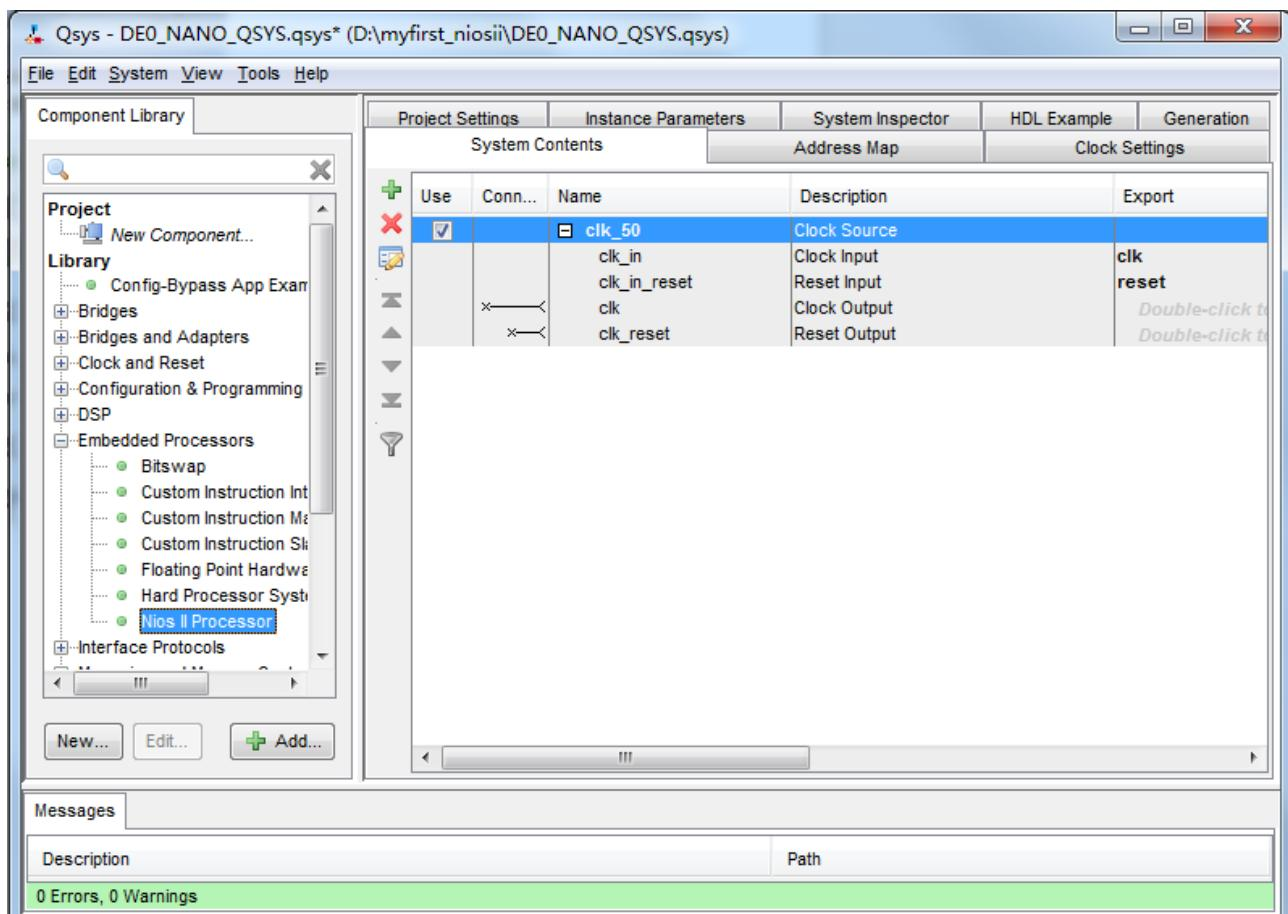
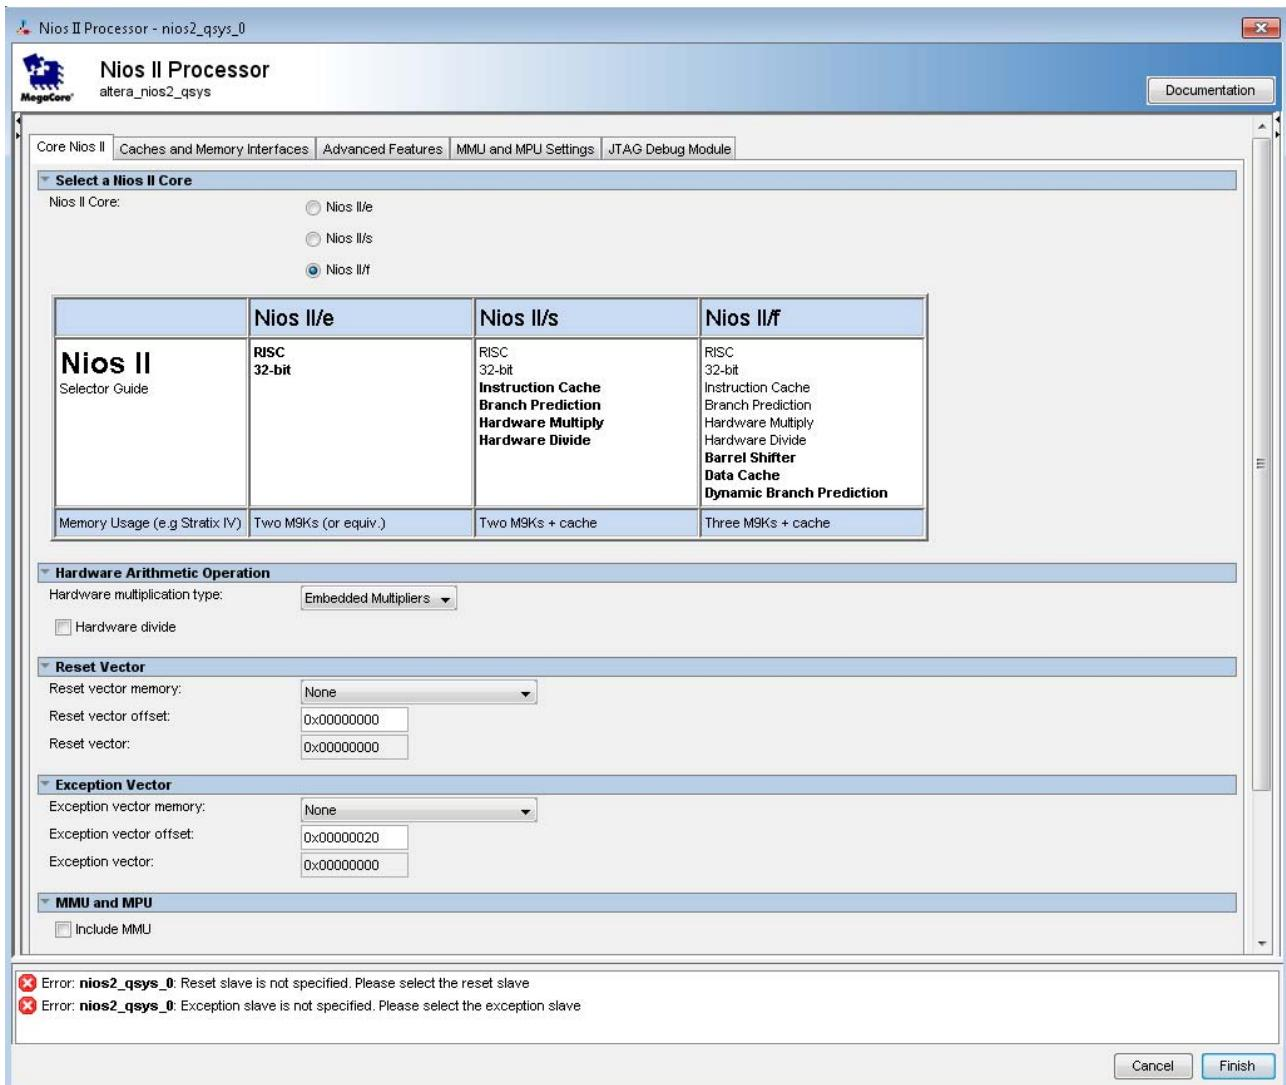

Figure 1-15 Add Nios II Processor
Figure 1-16 Nios II Processor
9. Choose Library > Embedded Processors > Nios II Processor to open wizard of adding cpu component. See **Figure 1-15** and **Figure 1-16**.